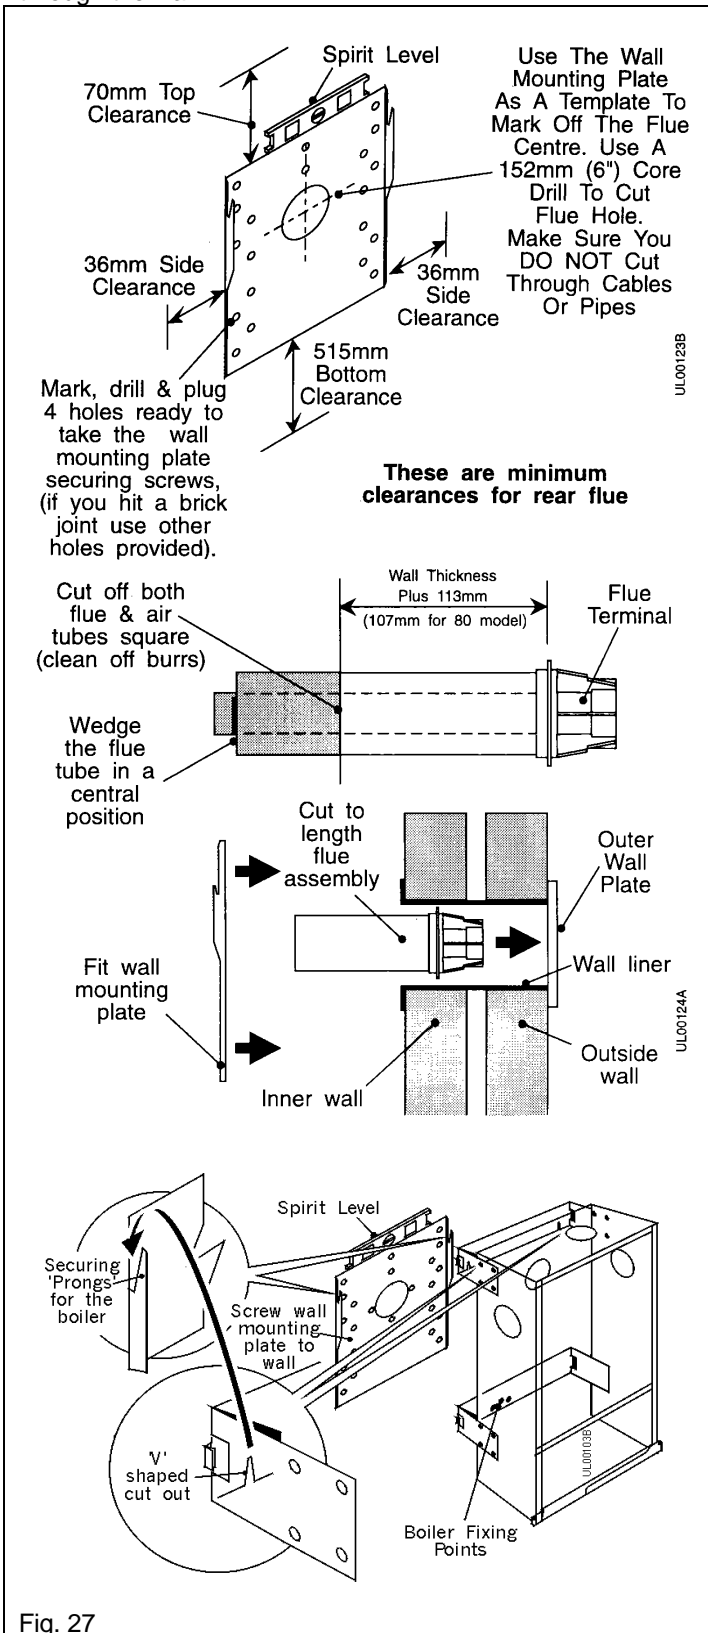

Fig. 27
- To measure the flue length take the wall thickness & add 113mm, from the flue terminal flange measure & mark the flue. See Fig.27. Add a further 40mm if the wall spacing plate is fitted. Put wedges in the end of the flue to stop the outer flue compressing onto the inner. Cut squarely through both the inner and outer tubes. Remove all burrs.